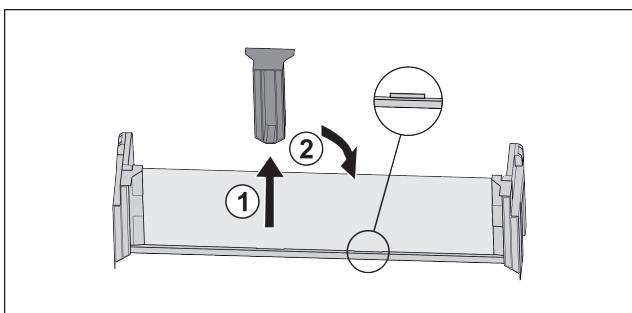

Fig. 114
► Pull off the middle holder Fig. 114 (1).
► Insert the middle holder in the second position Fig. 114 (2).